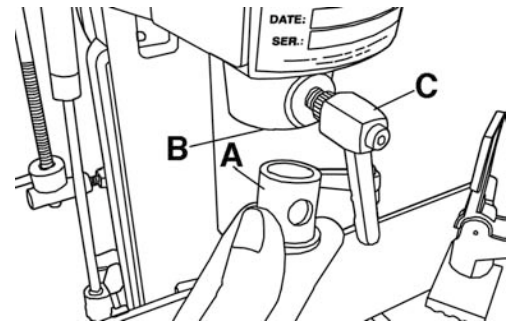

Figure 16
Insert the appropriate chisel bushing (A) Fig.16 up through the hole in head (B), being sure that round hole in the side of chisel bushing faces the front of machine. The lock knob (C) must pass through this hole to secure chisel. Tighten the chisel bushing lock knob (C), located on front of the head, until the chisel bushing is held up in place.